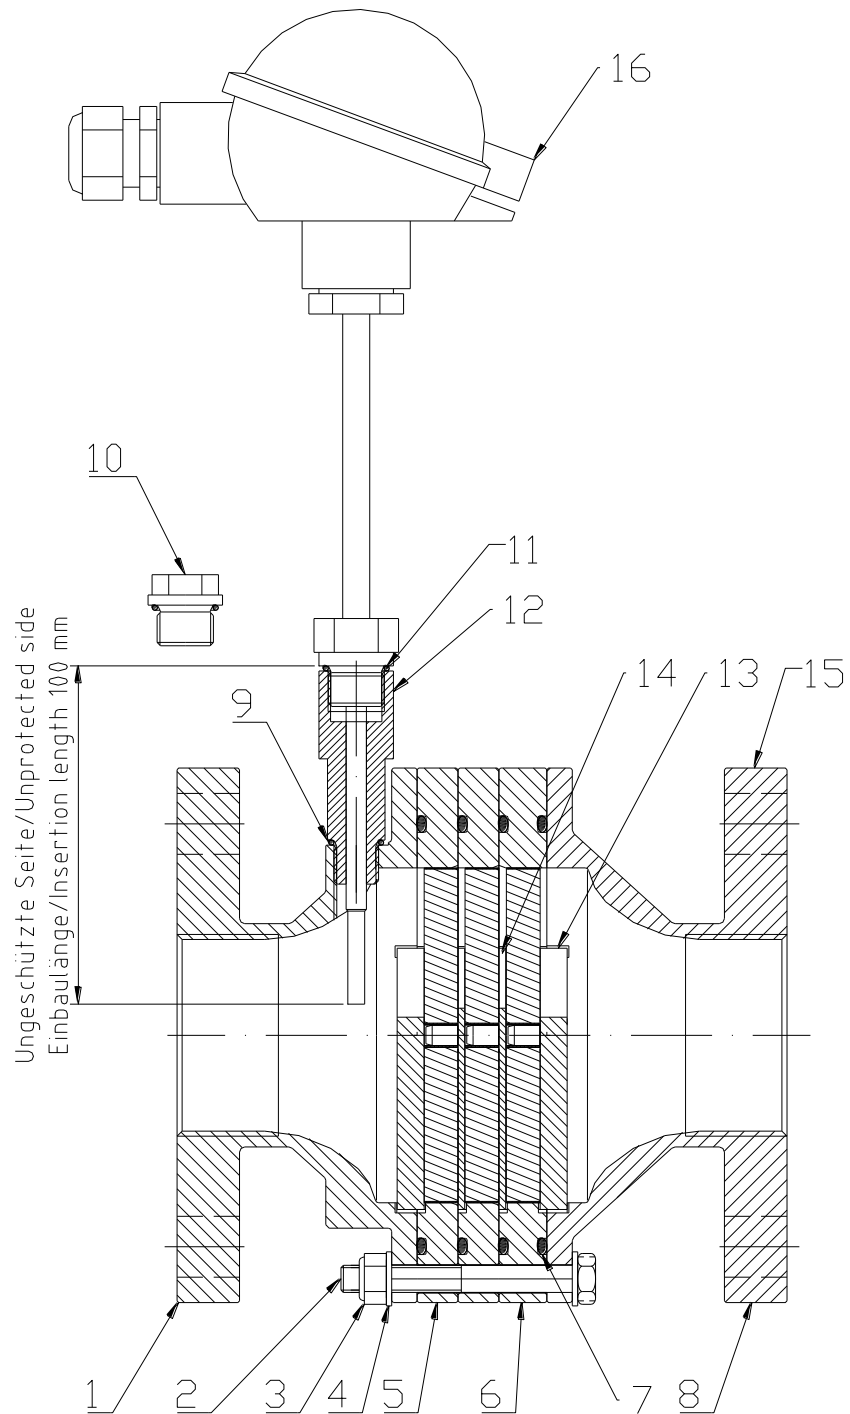

Fig. 1
(See fig. 1)
(See fig. 1).
- Complete serial number (SN)
- Spare part no. (Please refer to **fig. 1** for items)